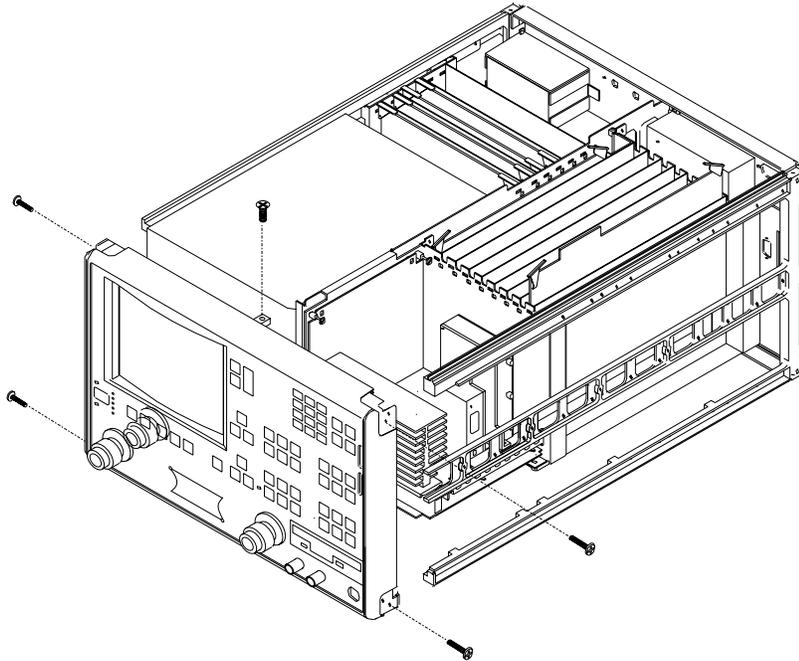

Figure 8-4. Removal of Front Panel Assembly
- Step 2. Remove the four corner screws and the top center screw that secure the front panel assembly to the chassis (see Figure 8-4).